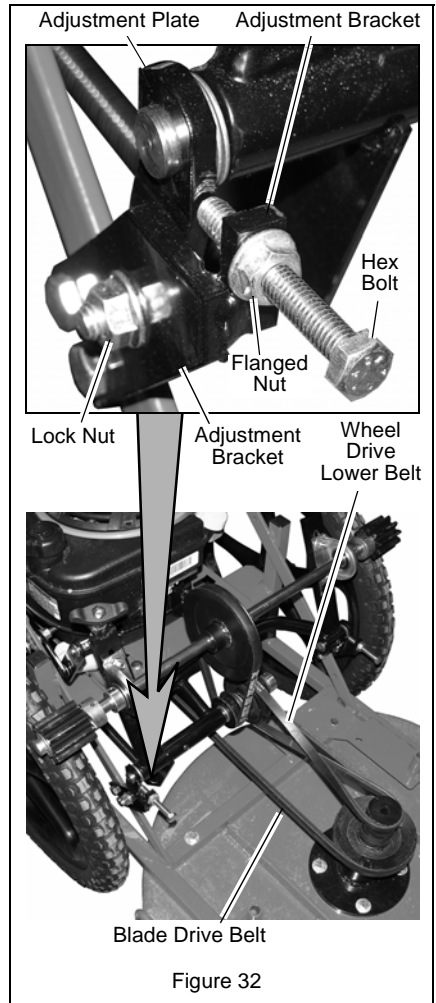

Figure 32
See Figure 32.
7. Tension belt to get a maximum of 80 lbs of tension. This correlates to approximately 0.250" (6.35mm) flex in belt. Use the pressure of one finger at the center of the belt span to check for proper flex. See Figures 32 and 33.